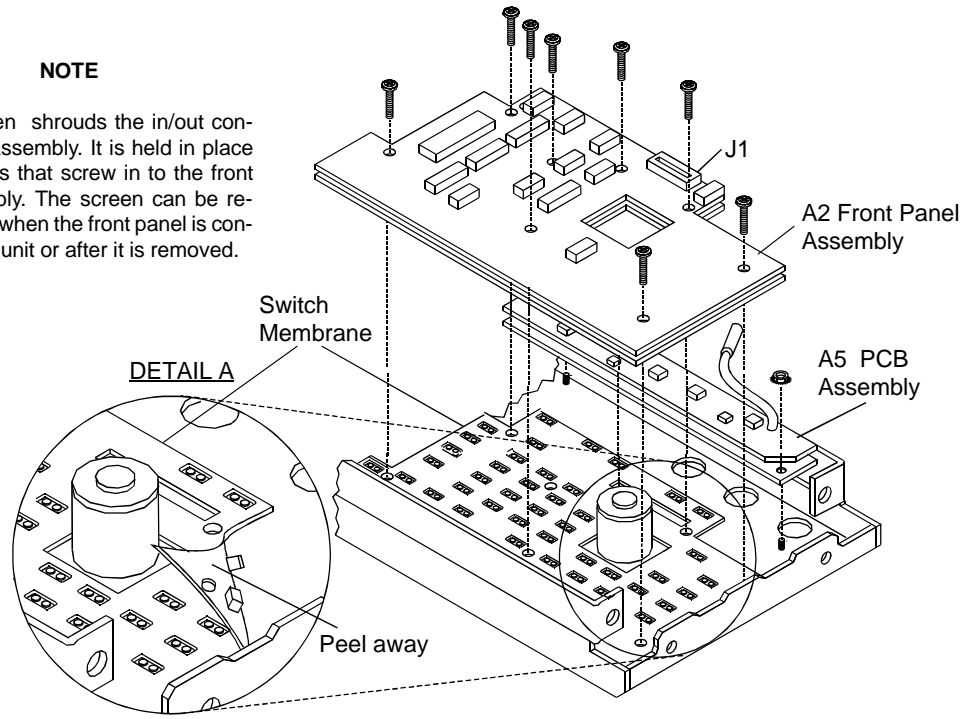

Figure 6-4. Exploded View of A1, A2, and A5 PCBs
- Step 2.** Remove eight screws that secure PCB (Figure 6-4).
- Step 1.** With the key-switch membrane exposed, carefully peel it away from the inside of the front panel backplate (Figure 6-4, Detail A).
- Step 3.** Remove five nuts, and lift the A5 PCB straight away (Figure 6-4).